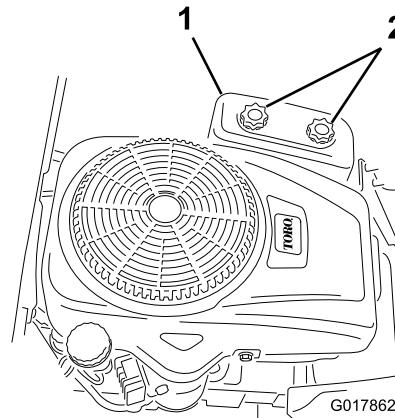

Figure 28
- Remove the air-cleaner cover by unscrewing the 2 knobs (Figure 28).
3. Install the air-cleaner cover, and tighten the 2 knobs (Figure 28).